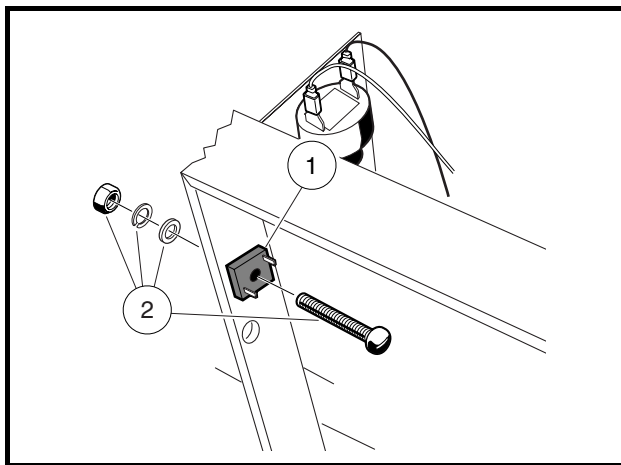

Figure 12-30 Headlight Diode
4. Disconnect wires from the headlight diode (1) (**Figure 12-30, Page 12-27**).
5. Remove the mounting hardware (2) from the headlight diode and remove.
1. Mount the headlight diode to the frame and tighten to 25 in-lb (2.8 N·m) (**Figure 12-30, Page 12-27**).